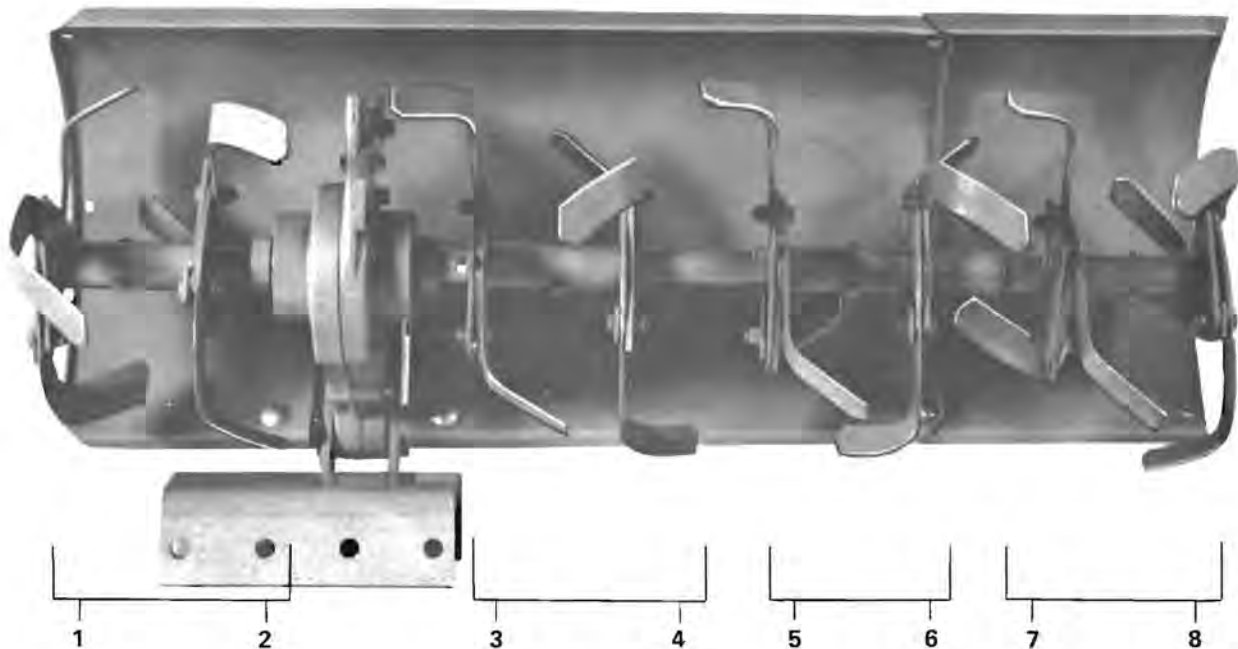

FIGURE 9 TINE SECTION 3 and 4 CONVERTED TO RIGHT SIDE FOR OFFSET TILLING
If required, tine section "3" and "4" can be removed, converted and installed as the center section on the right side as shown in Figure 9 for offset tilling. Remove, reverse and reassemble the tines as illustrated in Figure 10.
3. 27" Tilling Width - Remove section "1 and 2" altogether. Convert section "3 and 4" as shown in Figure 9 and relocate to the right side of the chain case. This results in 27" of cutting width with tine section "7 and 8" offset.